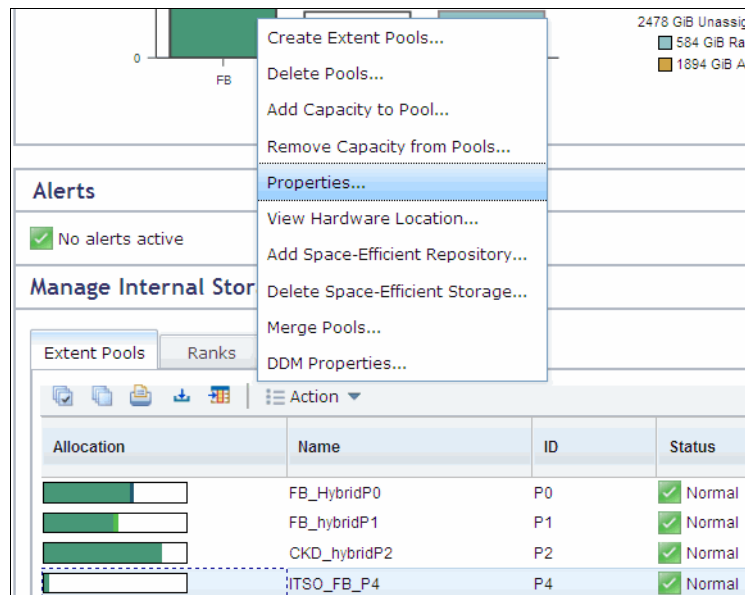

Figure 13-32 Extent pool action Properties
- The options available from the **Action** drop-down menu are shown in Figure 13-32. To check the Extent Pool properties, select the desired Extent Pool and, from the **Action** drop-down menu, click **Properties**.